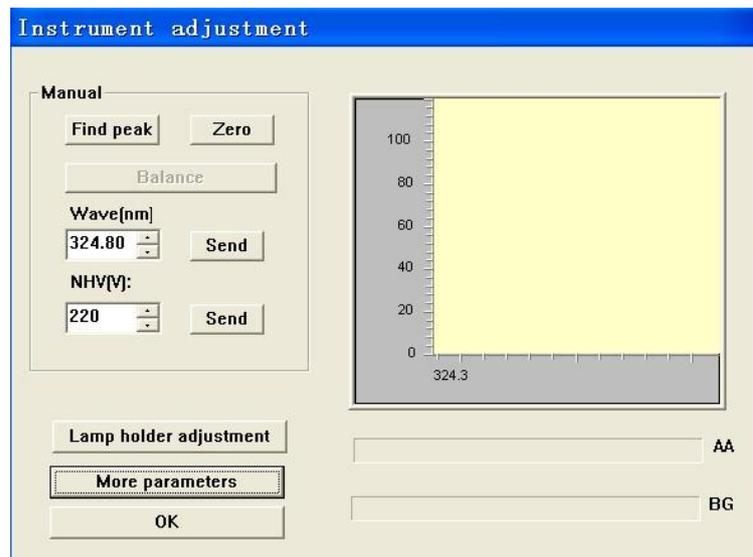

Figure 4-45
1. Press "Instrument adjustment" to show a dialog as shown in Figure 4-45.